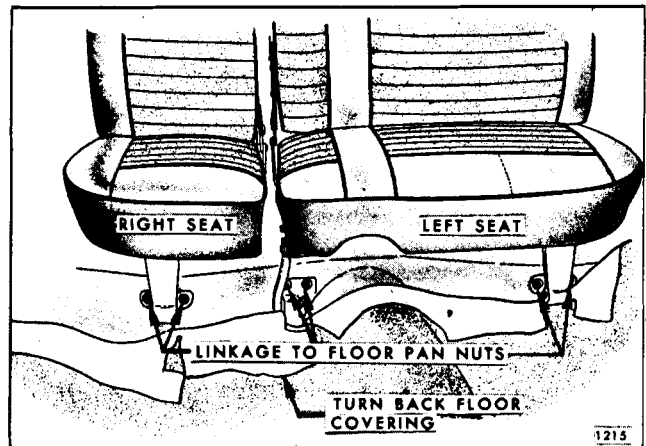

Fig. 14-77-Folding Second Seat Front Linkage
2. Mark location of front linkage support on floor pan to facilitate installation in same position. Support front of seat. Remove bolts securing linkage to seat and nuts securing linkage to floor pan studs; then, remove front linkage (See Fig. 14-77).